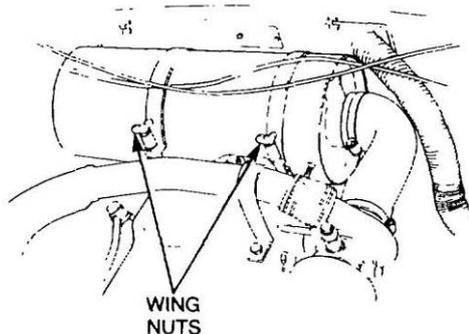

Figure 56 Removal of the Air Cleaner
- k. Remove the hose clamps securing the air inlet and outlet hoses to the air cleaner housing and disconnect the hoses. Remove the two wing-nuts from the clamp bolts (Figure 56) and carefully lift the air cleaner out of the mounting brackets.